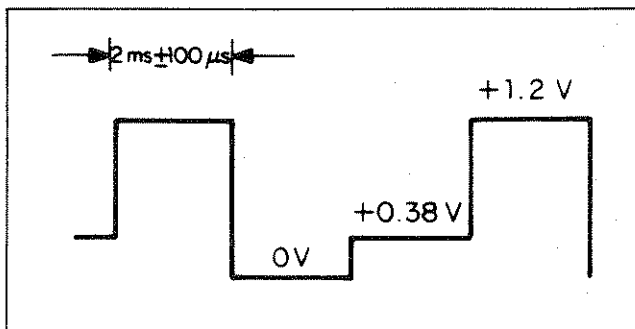
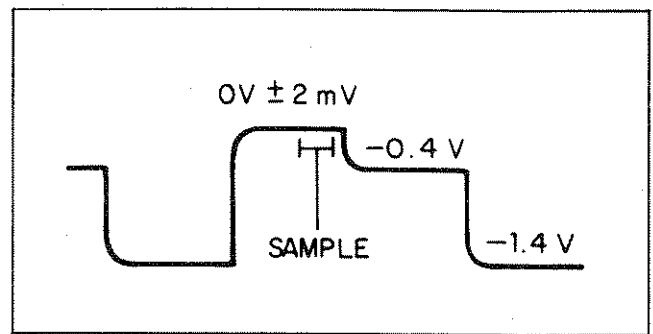

Figure V-8. INPUT MODULATOR CHECK WAVEFORMS
Figure V-9. DC RESTORER OUT
(1) Modulator Check
- (d) Monitor the signal at TP9702. The observed signal should be as indicated in Figure V-8.
(2) A.G.C. ZERO ADJUST (R9741)
(3) DC RESTORER ADJUST (R9724)
- (a) Connect the oscilloscope to TP9708. The waveform should be as indicated in Figure V-9.
- (b) Adjust R9724 (DC RESTORER ADJUST) so that the voltage in the "sample" interval as indicated in Figure V-9 is $0\text{ V} \pm 2\text{ mV}$.
(4) ABSOLUTE VALUE ADJUST (R9753)